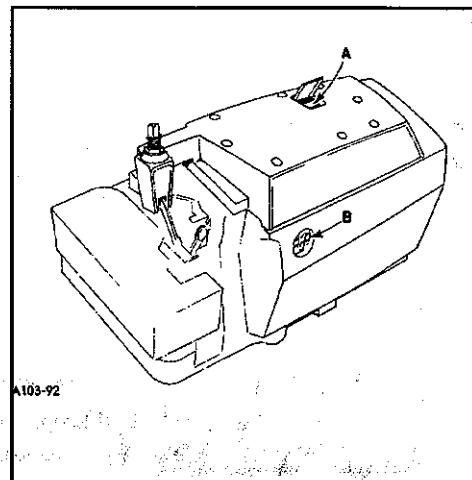

Fig. 4
Referring to Fig. 4, fill the machine at spring cap (A). Use a straight mineral oil, Saybolt viscosity of 90 to 125 seconds at 100° Fahrenheit. This is equivalent to Union Special Specification No. 175. Check the oil level at sight gauge (B) when the machine is level & stationary. The red tip on the oil indicator should show between the two lines on oil sight gauge (B).